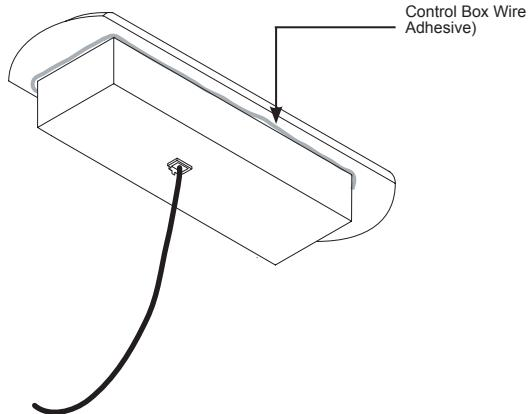

Figure 6 - Adhesive Application
- 2 Sparingly apply adhesive around the base of the control panel (Figure 6).